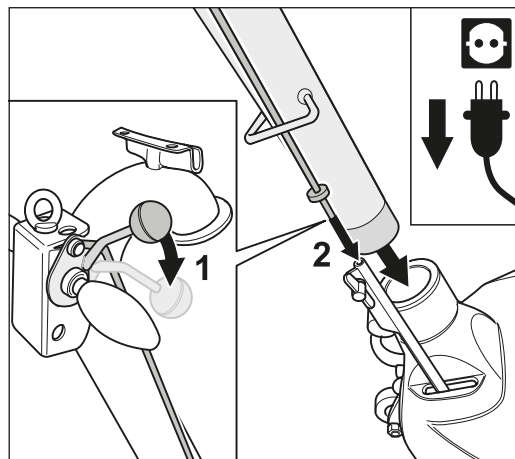

Fig. 8 When inserting the guide tube, make sure that the upper rod of the lowering mechanism feeds in correctly!
- 2 Press the lowering lever at the handle downwards (fig. 8, 1).
- 3 Insert the guide tube into the opening in the machine housing and at the same time insert the upper rod into the lower rod (fig. 8, 2).